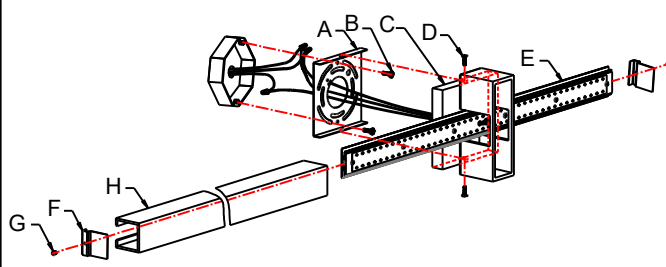

Fig. 2
CONNECTING THE WIRES (Fig.2)
4. Connect the electrical wires as shown in Fig. 2, making sure that all wire connectors are secured. If your outlet has a ground wire (green or bare copper), connect the fixture's ground wire to it. Otherwise, connect the fixture ground wire directly to the mounting plate (A) using the green screw provided. After wires are connected, tuck them carefully inside the junction box.
5. Place the fixture's back plate (C) over the mounting plate (A) and secure with screws (D).